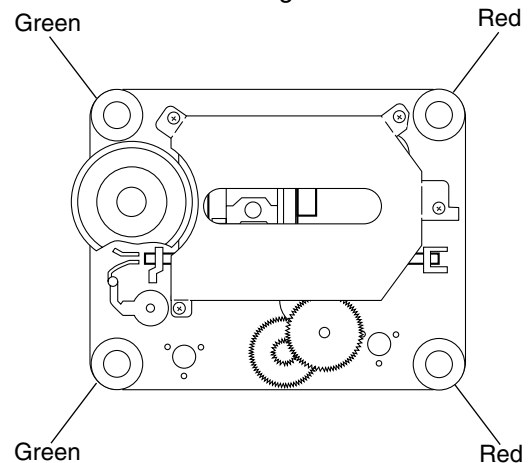

Fig.22
**[Caution]** · When replacing the CD mechanism assembly, be sure not to mistake the positions of the red and green dampers. (See Fig.22)